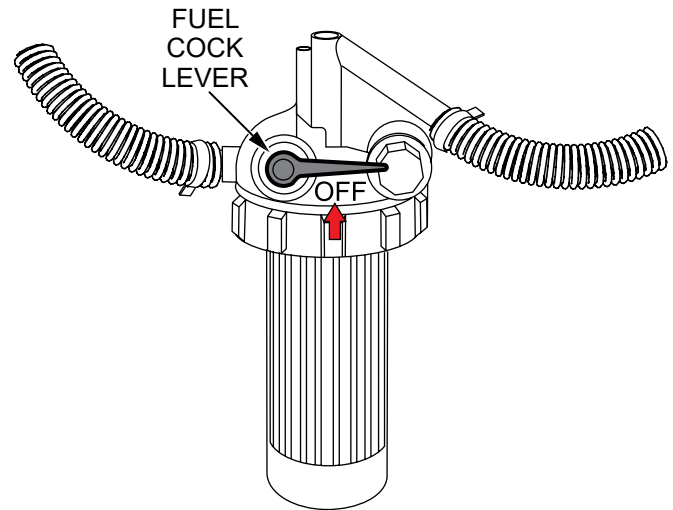

Figure 44. Fuel Cock Lever (OFF)
6. Open the generator door and place the **fuel cock lever** (Figure 44) in the **OFF** position.
2. Open the generator door and place the **fuel cock lever** (Figure 44) in the **OFF** position.